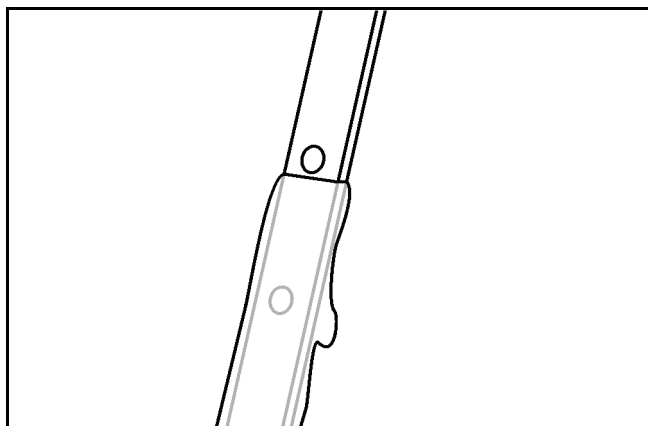

Figure 5-53
2. Check the transmission fluid level with the engine running in NEUTRAL and the oil at normal operating temperature. The fluid level should be between the two dots on the dipstick (**Figure 5-53**).